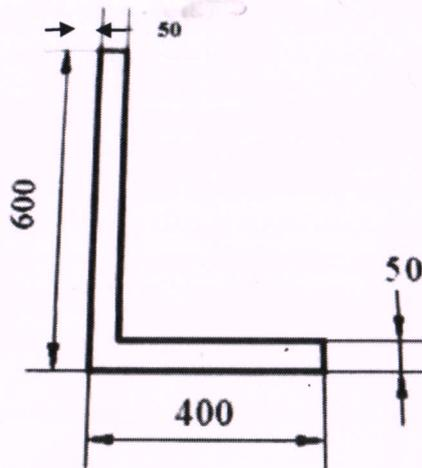

Fig. 5
- b) For the angle section shown in Fig. 5 determine the orientations of the principal (10) centroidal axes and the magnitudes of the principal centroidal moments of inertia.